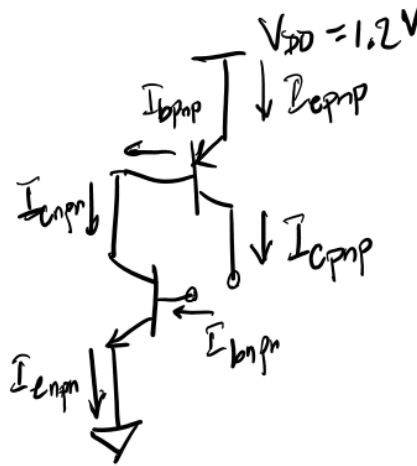

Figure 3: The schematic of the closed loop, with an artificial short at  $B_{npn}$  and  $C_{pnp}$
Using figure 3, we could start doing some case analysis. When  $I_{B_{npn}}$  is 0, the npn transistor is in cut-off, which would bring  $I_{B_{pnp}}$  to 0, which would also cut-off the pnp transistor. The expression for  $I_{C_{pnp}}$  in cut-off is available in (1).